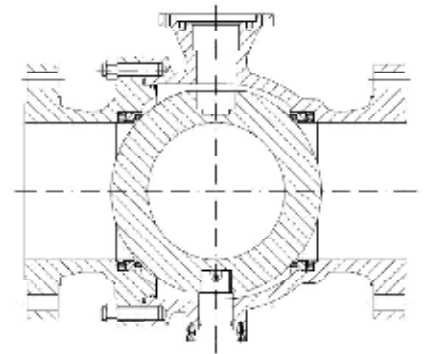

Figure 3
After the valve is fully closed, remove valve actuating parts and sealing parts, like actuator (12), top-mounted flange, stem (9), packing and packing case, and lay them out in order on the workbench to prevent the loss of parts, see **Figure 3**